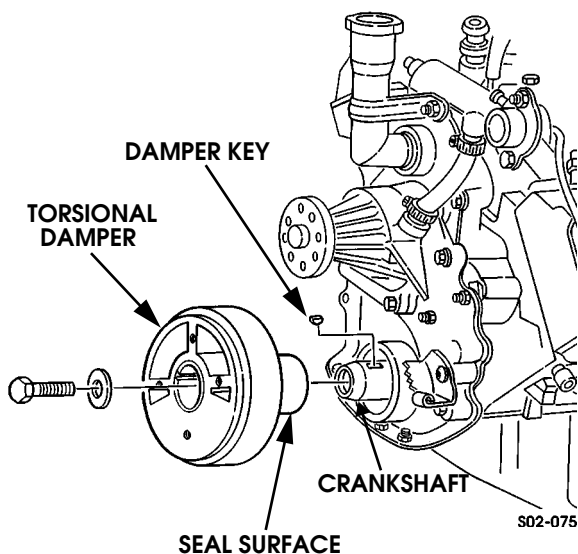

Figure 2-211: Torsional Damper Installation
1. Install damper key in crankshaft (Figure 2-211).